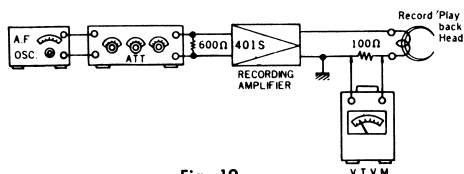

Fig. 19
Measuring Circuit: Refer to Fig. 19.
- As shown in Fig. 19, connect Output of AF Oscillator to Microphone Input Jack of Model RQ-401S through Attenuator (Terminal with 600 Ω , if impedance of Attenuator is 600 Ω). Disconnect wiring from ground side of Record Head. Insert 100 Ω Resistor between Lead Wire and Terminal.